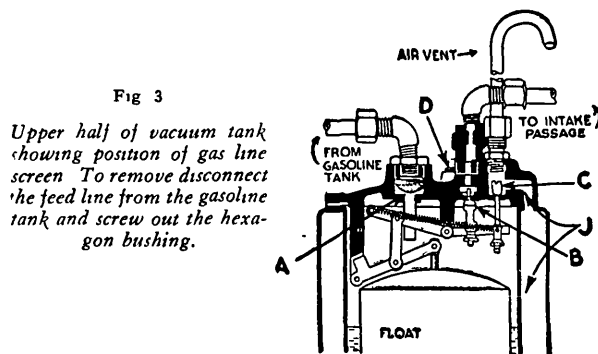

Fig. 3
**All models of Auburn** equipped with vacuum tank feed have two strainer screens in the gas line; one is located in the head of the vacuum tank as shown at (A, Fig. 3) and the other is located at the carburetor.
To clean the gas line screen (A, Fig. 3) at the vacuum tank, disconnect the gas lines from the gasoline supply tank and remove the elbow and bushings together with the gasoline strainers. Clean with air and gasoline.